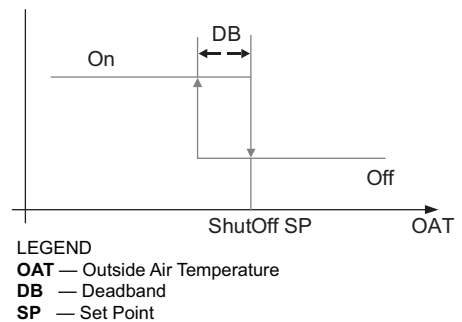

Fig. 84 — Hysteresis Settings
Hysteresis setting (DB) defaults to 2°F (–16.6°C). See Fig. 84.